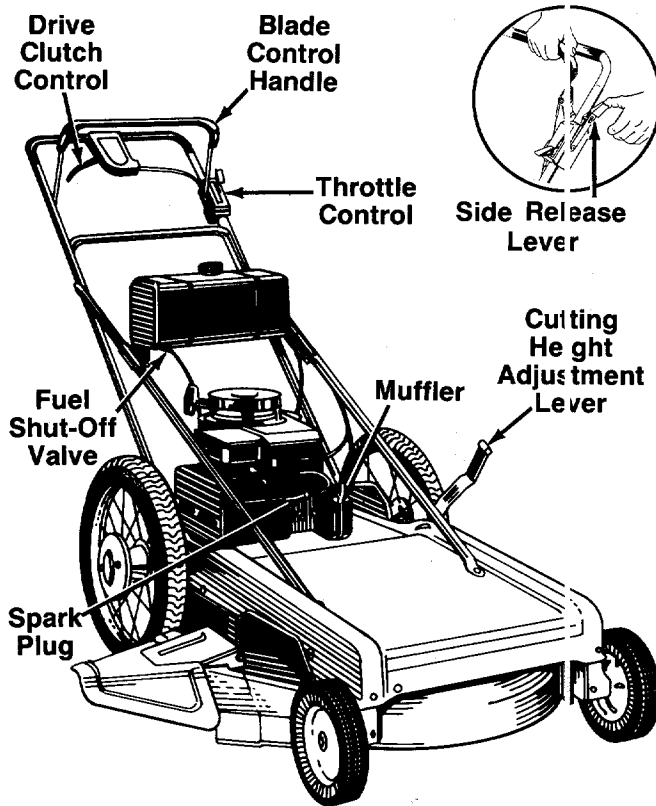

FIGURE 12.
The throttle is located on the left side of handle. It controls engine speed. See figure 12.
Squeezing the drive clutch control engages the drive mechanism to the rear wheels. Releasing the clutch control stops the rear wheels from driving. Release the drive clutch control to slow down when negotiating an obstacle, making a turn or stopping. See figure 12.
To engage the blade, pull the side release lever away from the unit. See figure 12. Pull the blade control handle against the upper handle. Release side lever.
2. Open fuel shut-off valve, located beneath the fuel tank. See figure 12.
2. To engage the blade, pull the side release lever away from the unit. Pull the blade brake/clutch control handle down against the upper handle. Release the side lever. See figure 12.